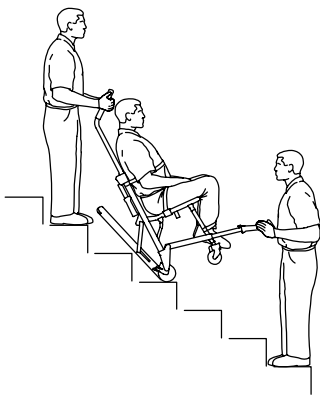

**Figure 10 – Track engaging first step**
7. Both operators: Maintaining the angle, guide the chair over the edge of the stairs. Allow the **Stair-TREAD** system to connect with the first step (Figure 10).